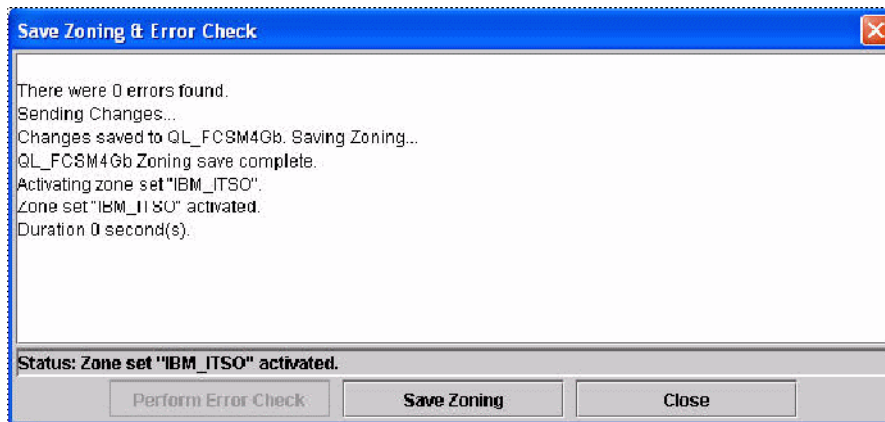

Figure 7-31 Save Zoning & Error Check window
22. Click the **Close** button to complete the saving and activation of your zone (see Figure 7-31).